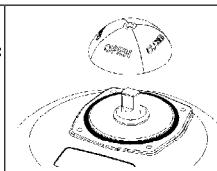

Fig. 12: Removing position indicator
- Remove position indicator (see "Fig. 12").